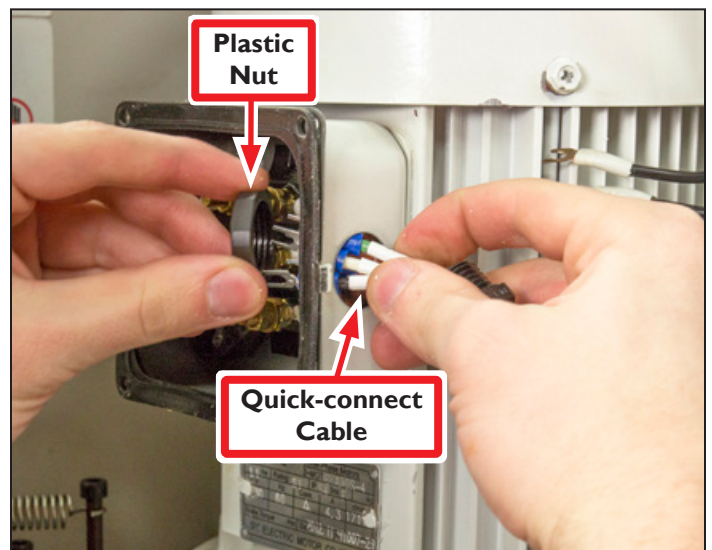

Figure 11
18. Put the four loose wires into the Motor Junction Box (see **Figure 11**).
19. Slip the Plastic Nut over the loose wires, and then screw it on to the cord grip (see **Figure 11**).